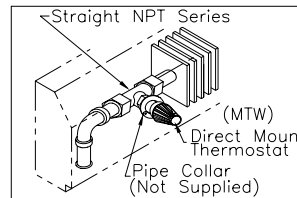

Fig. 4 Typical Installation of Direct Mount Thermostatic Head in Baseboard
Use the following procedure (Fig. 4):
6. Install pipe collar (collar not supplied) around the insulating sleeve. See Fig. 4.